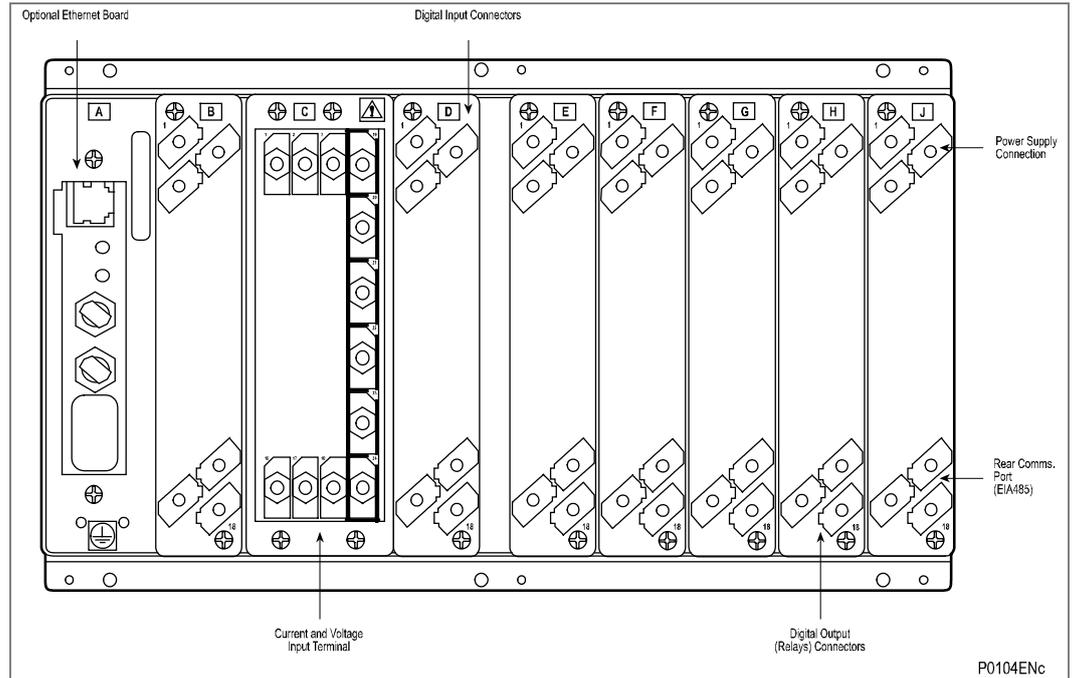

Figure 4 - Relay rear view for G-variant
- Note* Figure 4 shows the relay with optional Ethernet rear communications port with copper and fiber optic connections.